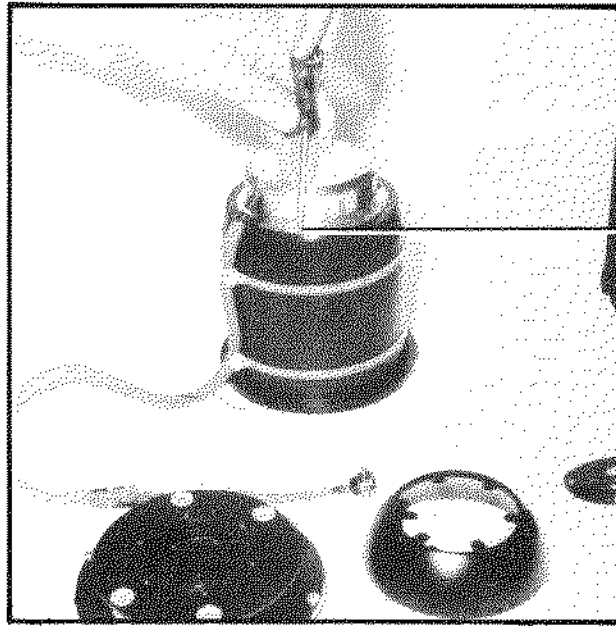
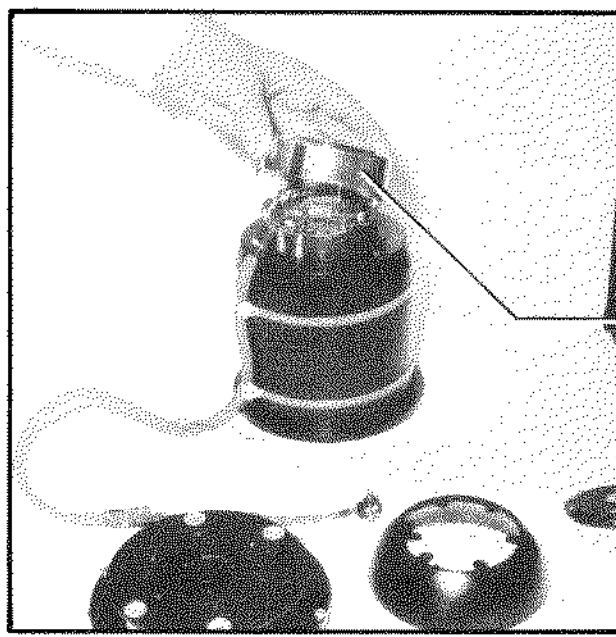

Fig. 3-22:
Fig. 3-23:
- Unscrew the 3 fastening screws on the cover of the pump unit (Fig. 3-22) and remove the cover (Fig. 3-23).